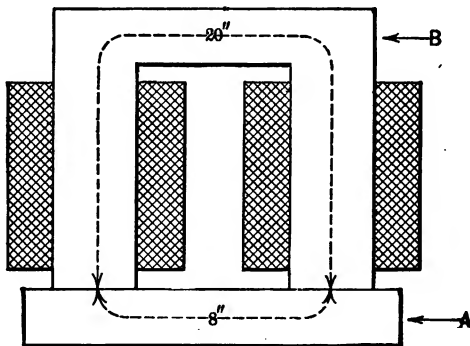

FIG. 4.—Lifting Magnet.
17. Fig. 4 represents a lifting magnet. The core, *B*,